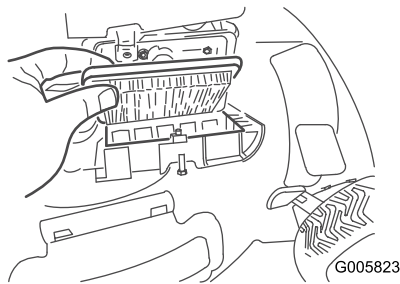

Figure 18
2. Replace the air filter (Figure 18).